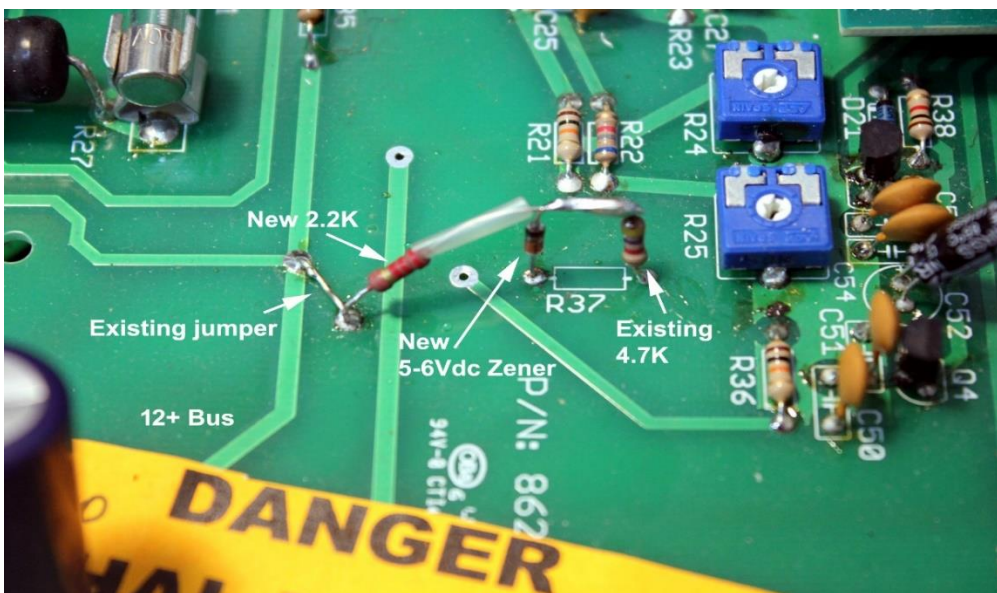

Figure 4 Zener and resistor mod
- 3.) Referring to figure 4, the new 5.6Vdc Zener diode connects with the banded end up to the end of the 4.7k lifted in step 1. This diode makes the threshold voltage on the relay control jack more reasonable at normal logic levels.